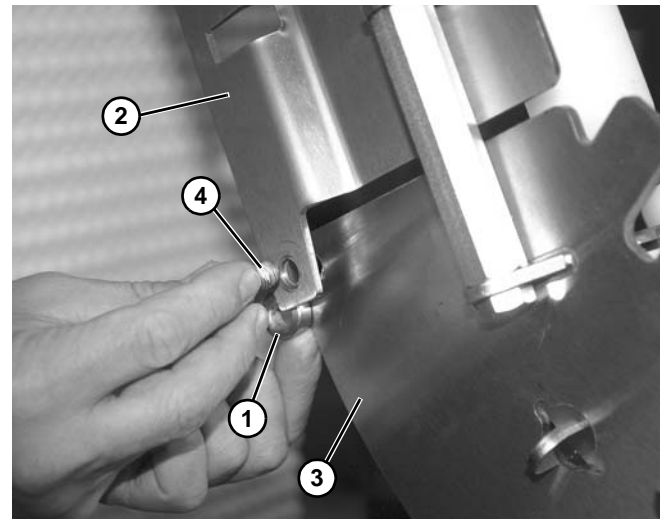

Figure 12
2. Install spacer (Figure 12, item 1) between frame (Figure 12, item 2) and lower knuckle plate (Figure 12, item 3). Secure with screw (Figure 12, item 4).